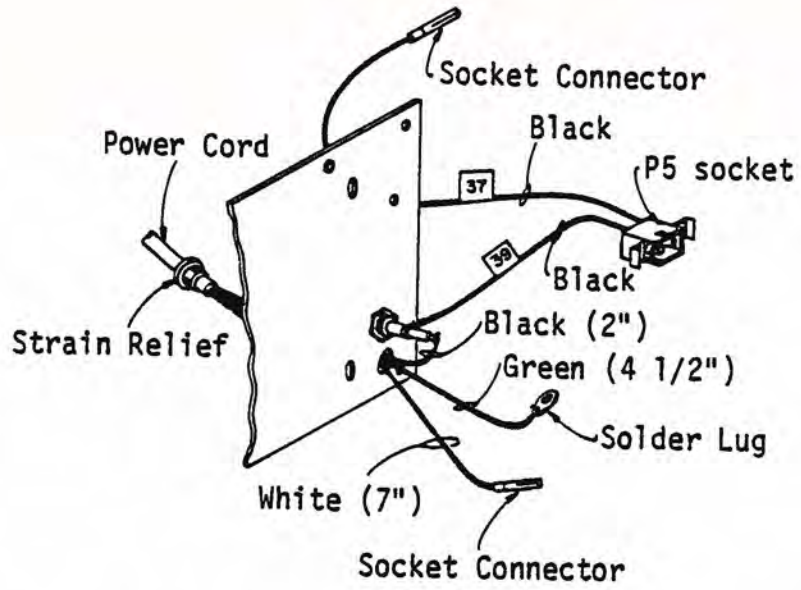

Figure 5-61 Connector Socket to Socket Housing
(2) Socket Housing
- c. Insert one connector socket of wire 37 into slot 9 of the socket housing (Figure 5-61).